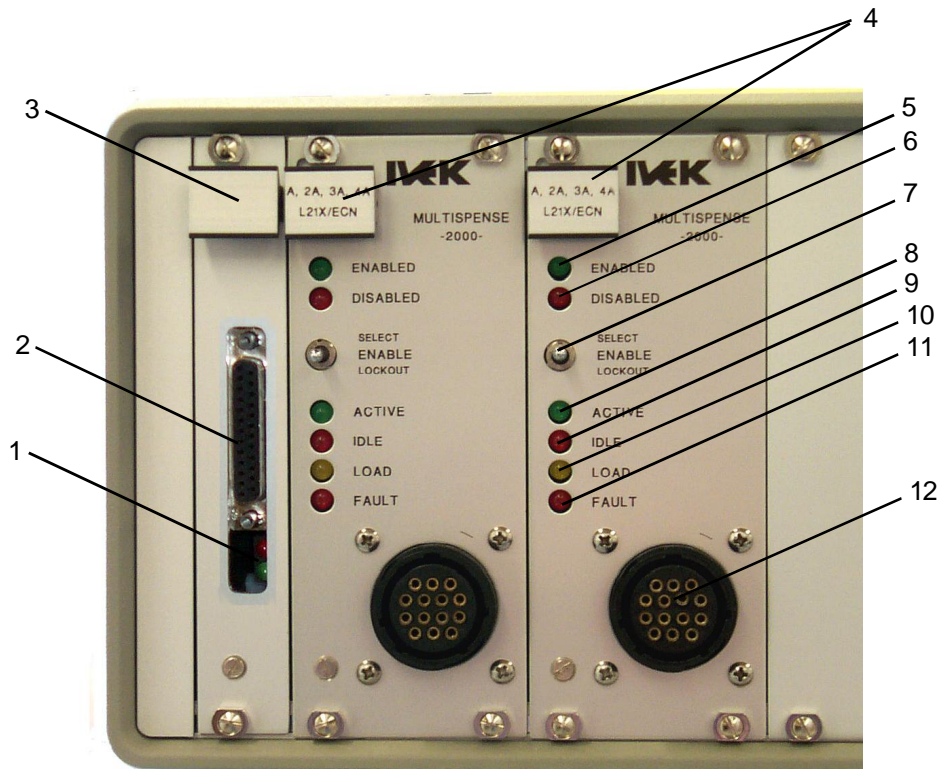

Figure 3.1 Multispense 2000 Controller Module Front Panel
3.1.1 Front Panel Controls & Indicators (Figure 3.1)
3.1.1.1 Master Plug-In (Figure 3.1 Item 3)
Serial Interface Connector (Figure 3.1 Item 2) - 25 pin “D” subminiature connector wired as described in Table 3.2.
Serial Interface Data Indicators (Figure 3.1 Item 1) - A red LED indicates data being received by the Master Plug-In, a
3.1.1.2 Channel Plug-In (Figure 3.1 Item 4)
Enabled Indicator (green) (Figure 3.1 Item 5) - This indicator illuminates while this channel is enabled for operation.
Disabled Indicator (red) (Figure 3.1 Item 6) - This indicator illuminates while this channel is NOT enabled for operation.
Enable Switch (Figure 3.1 Item 7) - This switch allows this channel to be enabled or disabled without using the serial interface. The normal position will be the middle (maintained) position where the channel can be enabled or disabled via the serial interface. Moving the switch to the top (SELECT momentary) position will toggle the state between ENABLE and DISABLE. The bottom (LOCKOUT maintained) position will disable the channel and will not allow the serial interface to enable the channel. The lockout position is used to insure a particular Actuator Module will not be operated. If the channel is attempted to be enabled using the serial interface, a warning message will indicate the lockout condition.
Active Indicator (green) (Figure 3.1 Item 8) - This indicator illuminates while the pump is operating.
Idle Indicator (red) (Figure 3.1 Item 9) - This indicator illuminates while the pump is not operating.
Load Indicator (yellow) (Figure 3.1 Item 10) - This indicator illuminates while the pump requires a load cycle or while the pump is loading.
Fault Indicator (red) (Figure 3.1 Item 11) - This indicator illuminates when either the linear or rotary sensors detect a fault.
Actuator Module Connector (Figure 3.1 Item 12) - A Channel Plug-In for an Actuator Module will have a 14 pin